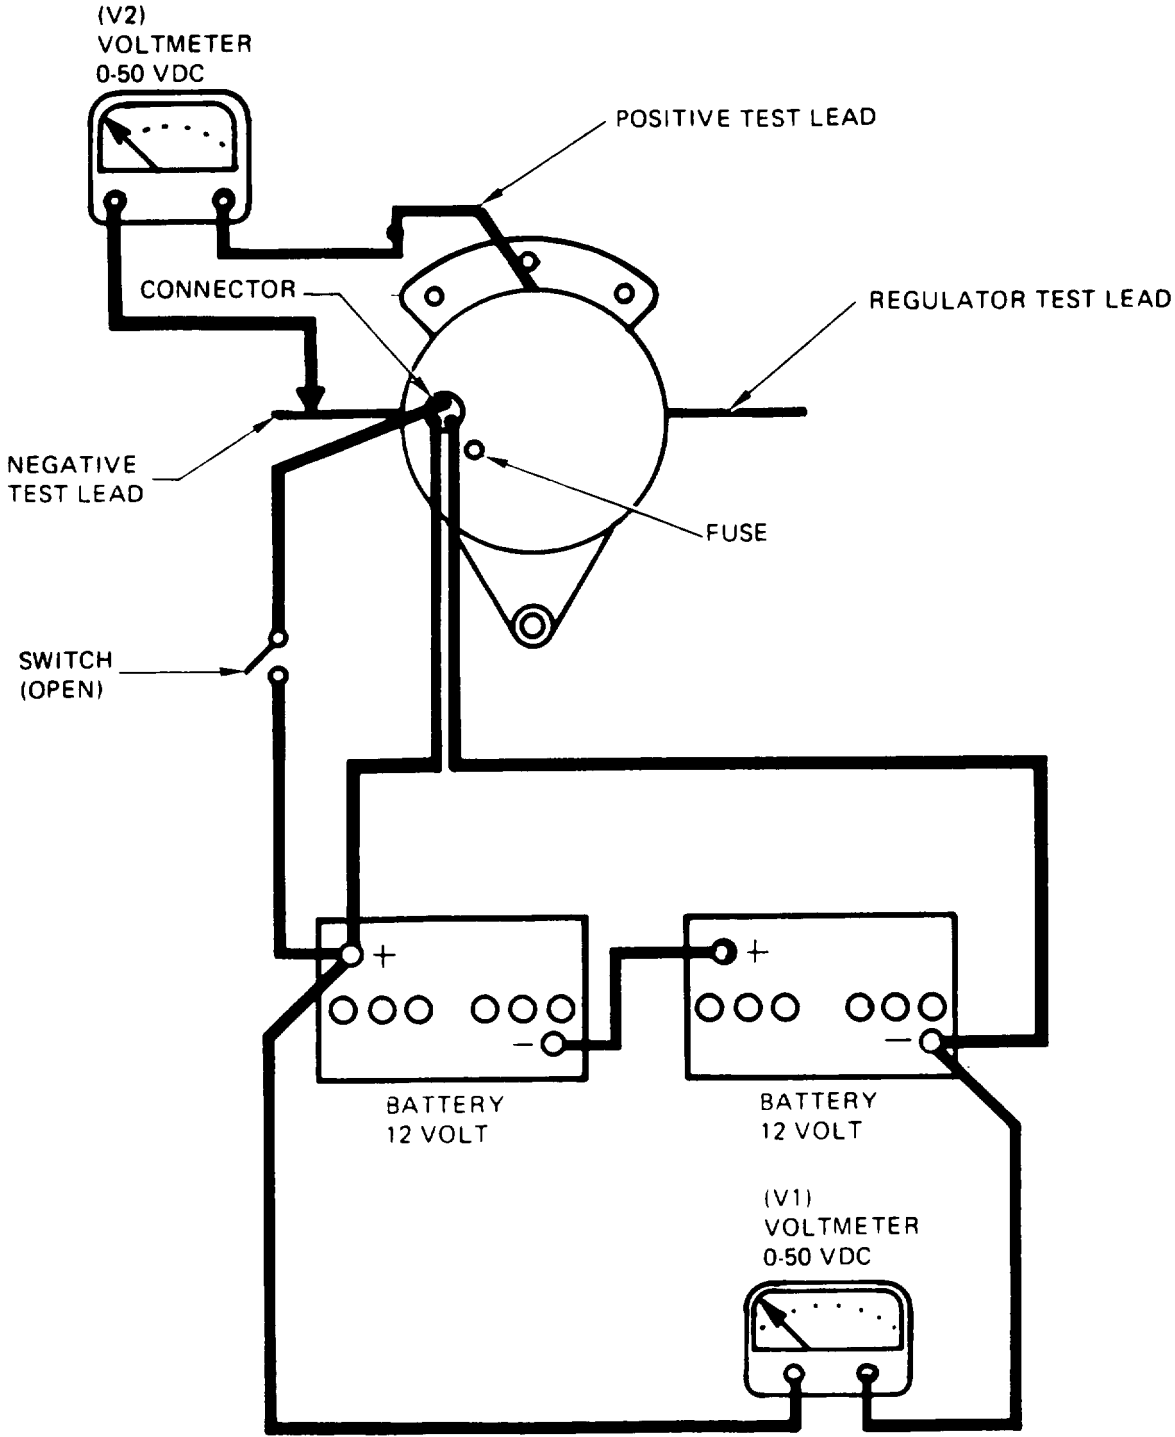
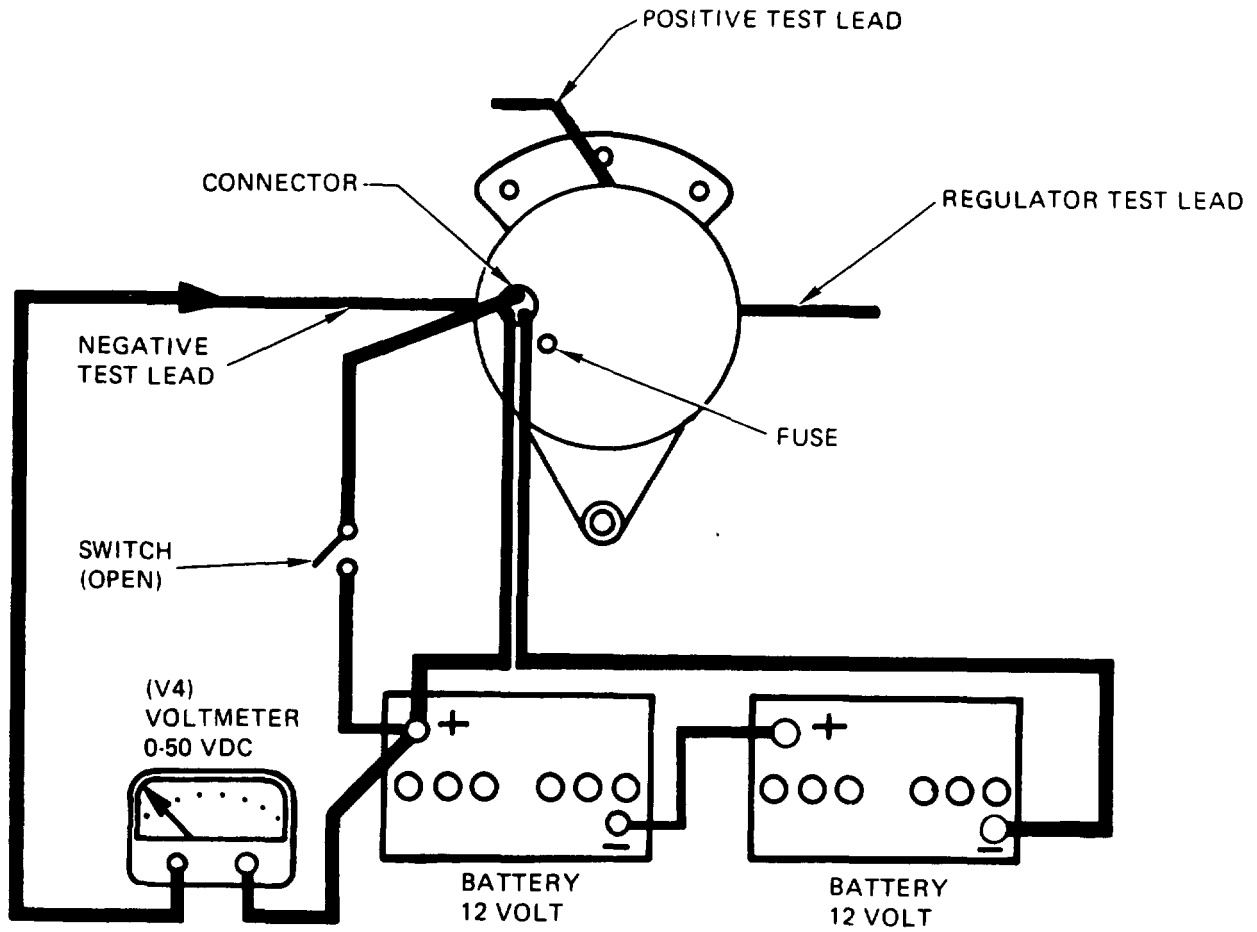
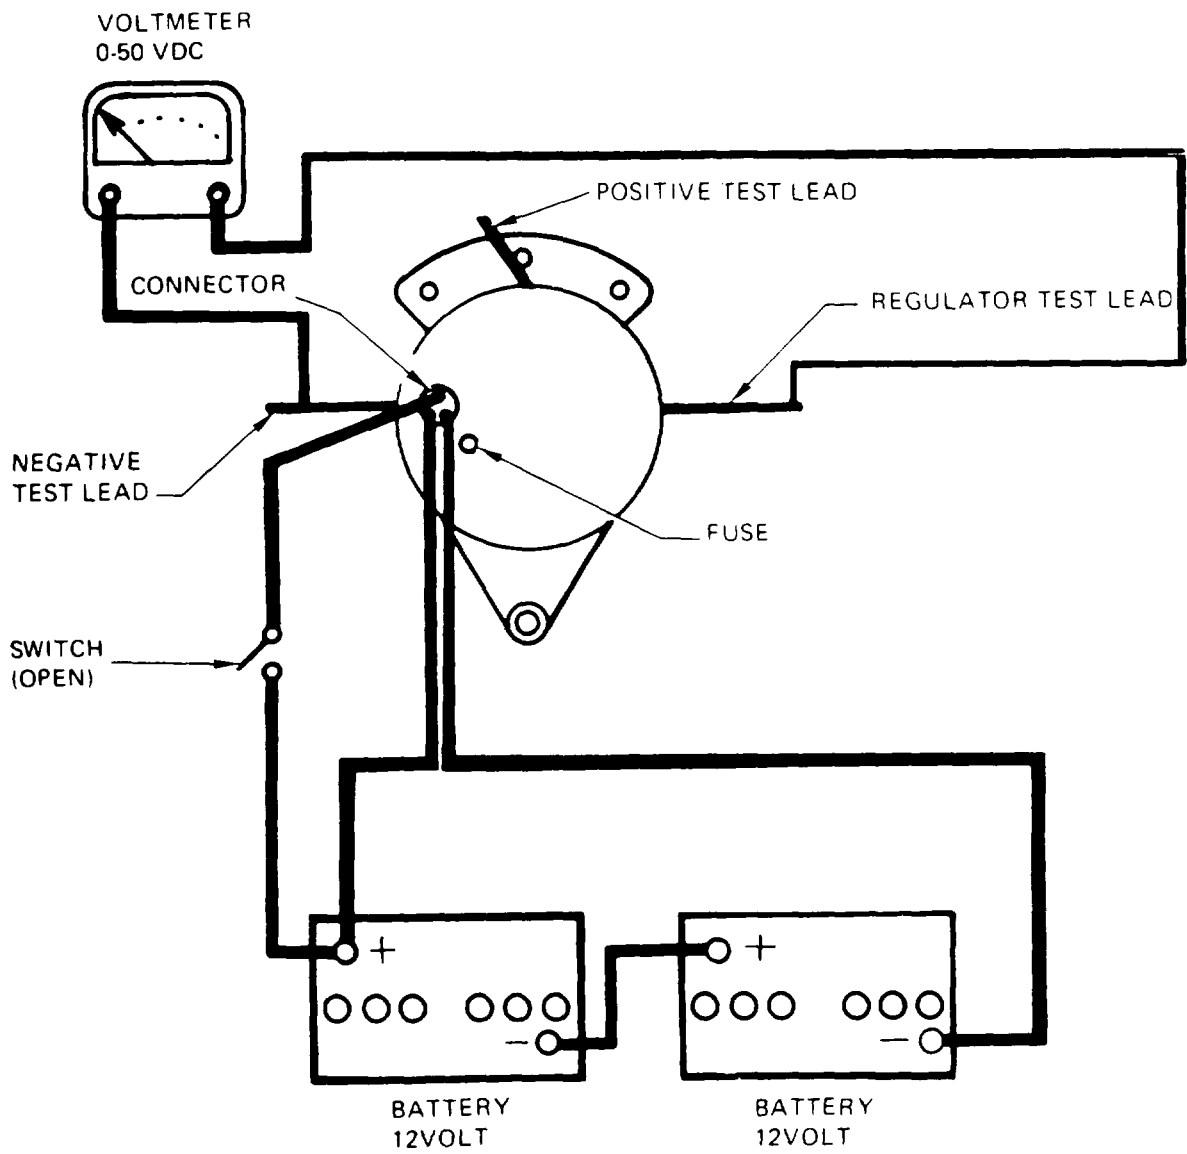

Figure 3-8. Total Circuit Voltage Test
Figure 3-10. Alternator Negative Output Circuit Test
Figure 3-11. Excitation Voltage Test
- (c) If voltage is greater than zero, but below voltage VI in figure 3-8, check for poor circuit conditions between battery positive terminal and alternator positive output terminal.
- (e) If voltage indicated is equal to voltage V1, test alternator negative output circuit as directed in step (5) below.
- (5) Test alternator output circuit as follows:
- (a) Check voltage V4 as indicated in figure 3-10.
- (b) If voltage is below voltage at V1 (figure 3-8), check for inadequate circuit conditions between battery negative terminal and alternator negative output terminal.
- (6) Conduct excitation voltage test as follows:
- (a) With voltmeter connected as in figure 3-11, close switch.
- (c) If voltmeter indicates zero volts, test voltage regulator as directed in step (8) below.
- (d) If voltmeter indication is greater than 3.7 Vdc, test for open circuit of alternator field (rotor) as directed in step (9) below.
- (e) If voltmeter indication is as specified, proceed with voltage regulator, alternator output, and voltage protector test as outlined in step (10) below.
- (7) Test for faulty alternator voltage regulator as follows: